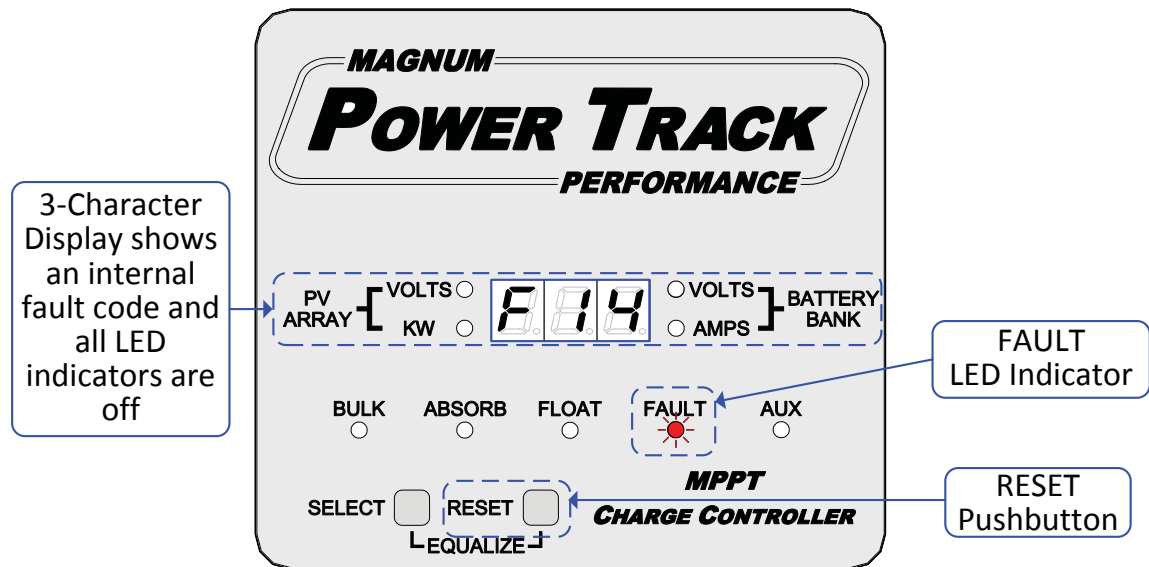

Figure 5-3, PT Controller Reset
3. Press and hold the RESET pushbutton (see Figure 5-3) for ten (10) seconds until the PT controller begins performing the diagnostic power-up test routine (see Section 2.11.2).